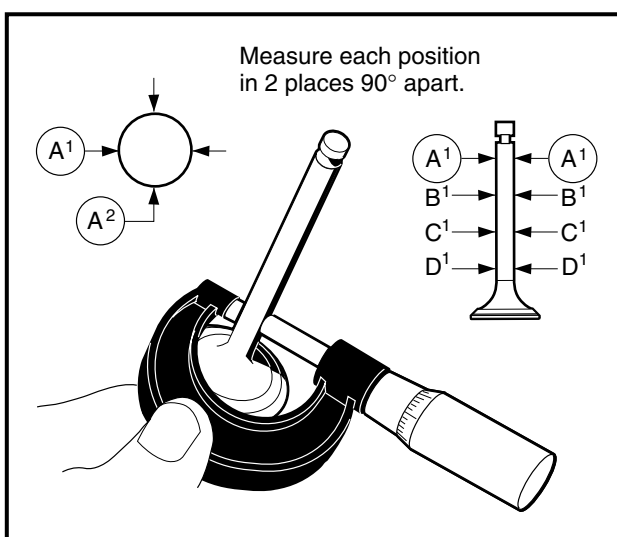

Figure 2-26 Measure Valve Stem Diameter
1. Using a micrometer, measure the diameter of the stem at several points along its length (**Figure 2-26, Page 2-14**).